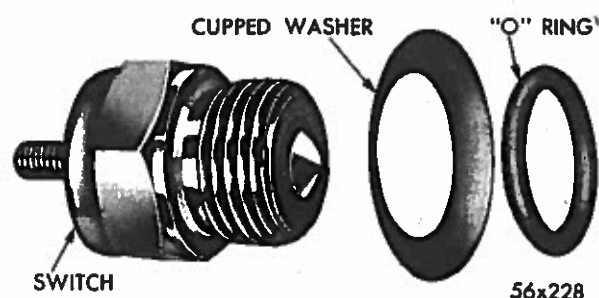

Fig. 16—Neutral Starting Switch (Disassembled)
(2) Raise vehicle and drain approximately two quarts of fluid from transmission.
(3) Unscrew neutral starting switch from transmission case and check to see that switch operating lever is aligned in center of switch opening in the case.
(4) Place cupped washer and "O" ring over threads of the switch (Fig. 16), then screw switch into transmission case a few turns
(5) Connect one lead of a test lamp to battery current and the other lead to the switch terminal. Screw switch into transmission case until the lamp lights, then tighten switch an additional $\frac{1}{8}$ to $\frac{1}{2}$ turn.